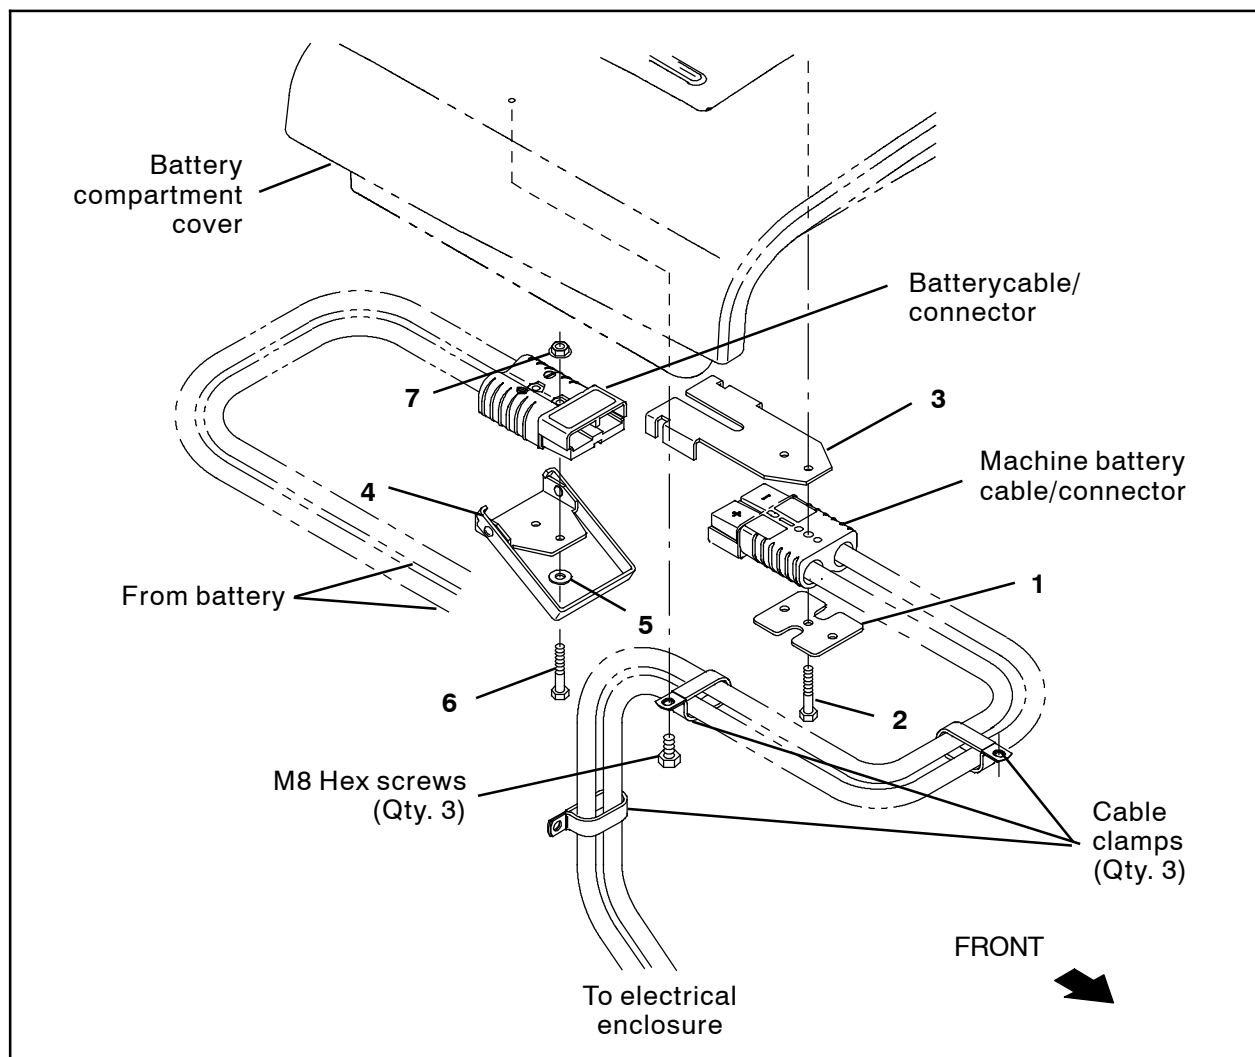

FIG. 3
3. Use two M6 hex screws (2), the battery disconnect mounting plate (1), and the battery disconnect mounting base to install the machine battery cable connector onto the battery compartment cover. (Fig. 3)
4. Use two M6 hex screws (6), two flat washers (5), and two M6 flange nuts (7) to install the battery disconnect mounting bracket (4) onto the battery cable. (Fig. 3)
5. Reinstall all cable clamps removed to install the quick disconnect kit back onto the machine battery cable/battery compartment cover. (Fig. 3)